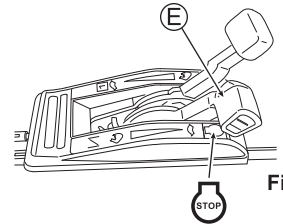

Fig. 14
- The engine stalls if the blade lever is gripped with Throttle lever (E) set at "S".
- 2 Set Throttle lever (E) to "STOP". (See Fig. 14)